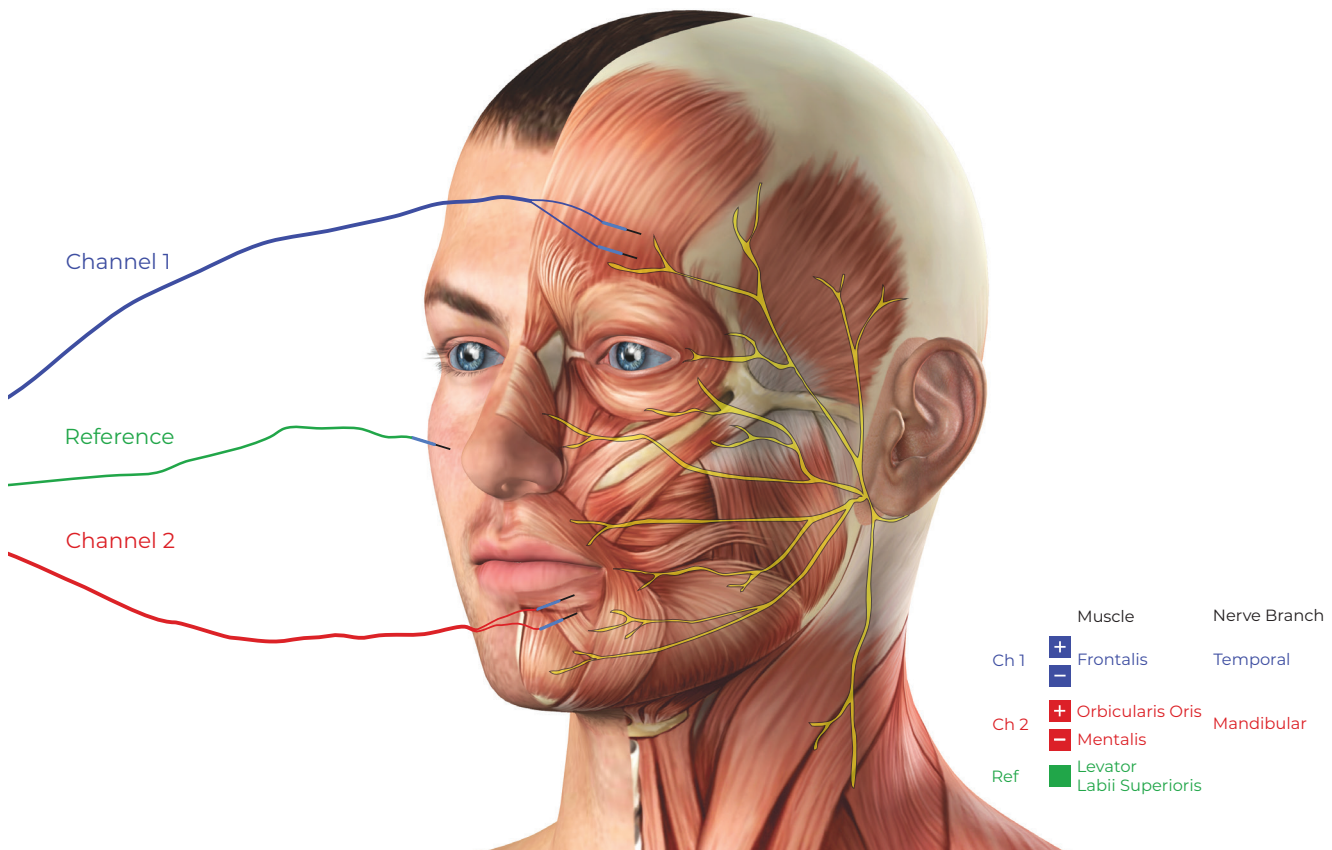

Figure 8.1: Suggested electrode placement during a cochlear implant.
2. Insert each pair of Subdermal Needle Electrodes into the appropriate muscles indicated in Figure 8.1 (page 15), with the wires leading away from the surgical site. Ensure that the needles of each electrode are inserted adequately into the muscle and not simply under the skin.